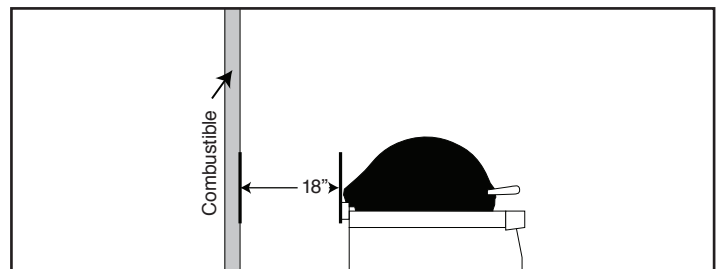

Figure 3 Clearance 'C' Diagram
- The grill must have a minimum of 18" right, left, and rear clearance from any combustible wall (see Figure 3).